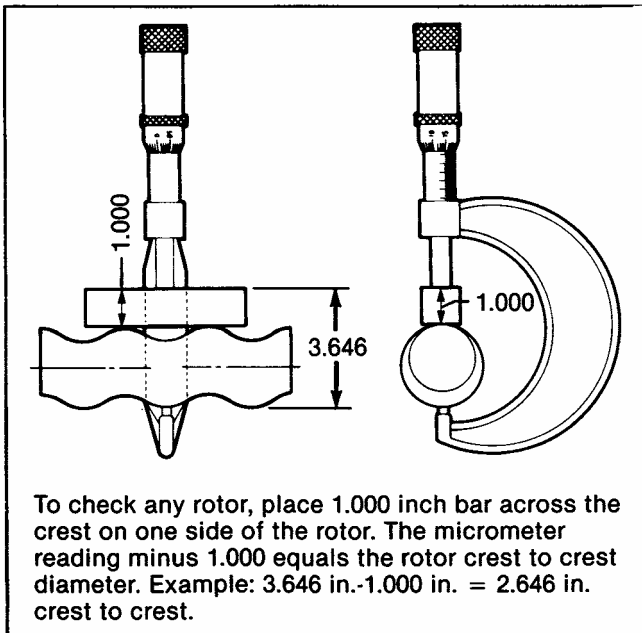

Figure 4-4. Measuring Rotor Dimension
1. To check for excessive wear of rotor (40), measure the rotor crest-to-crest diameter (see fig. 4-4) and compare with the following chart: